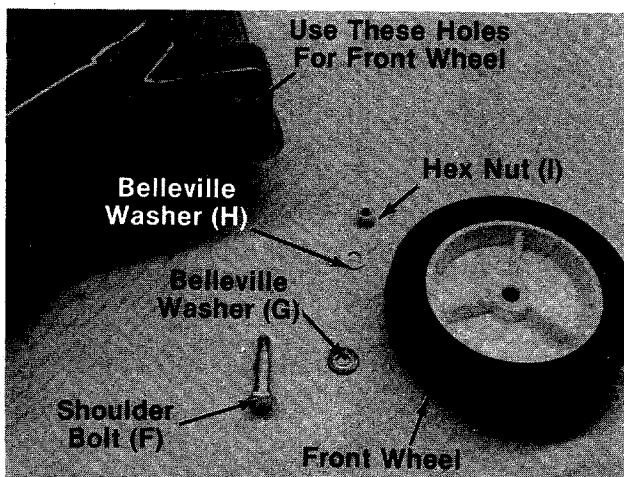

FIGURE 9.
14. **Units without height adjustment brackets**—If the wheels on your mower are not already assembled, proceed as follows. The front wheels must be assembled in one of the three holes nearest the front of the deck. See figure 9. The rear wheels must be assembled in one of the three holes nearest the rear of the deck.
← To assemble the wheels (see figure 9):